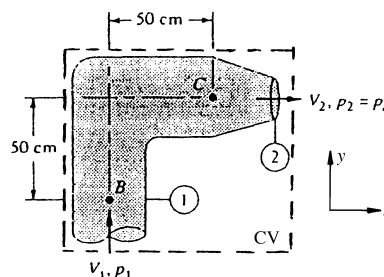

Fig. P3.121
3.121 The pipe bend of Fig. P3.121 has $D_1 = 27$ cm and $D_2 = 13$ cm. When water at 20°C flows through the pipe at 4000 gal/min, $p_1 = 194$ kPa (gage). Compute the torque required at point B to hold the bend stationary.